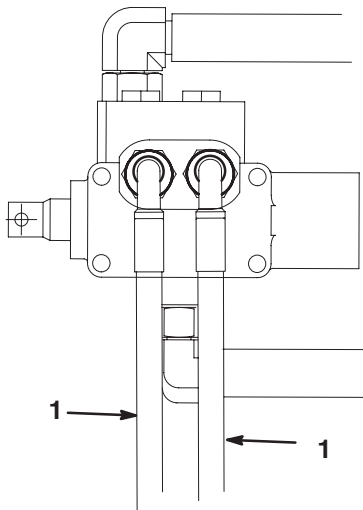

Figure 6
Note: Make sure the (2) hydraulic hoses are oriented so they point straight out the left side of the control valve, as shown in figure 6. This will eliminate the chance of the hoses interfering with the fuel tank.